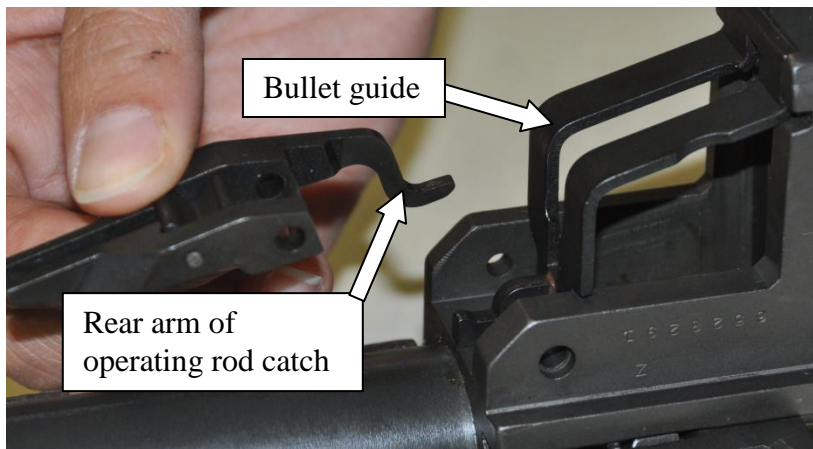
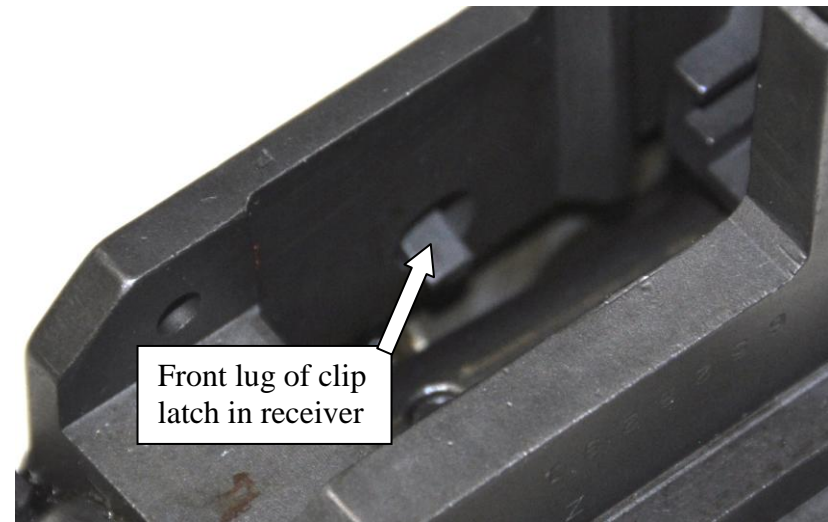
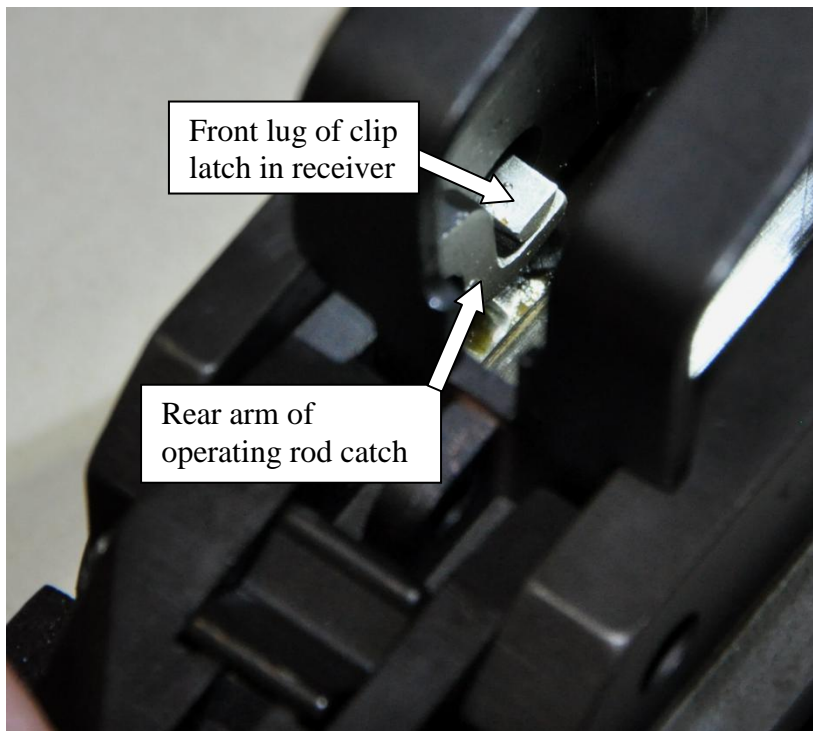
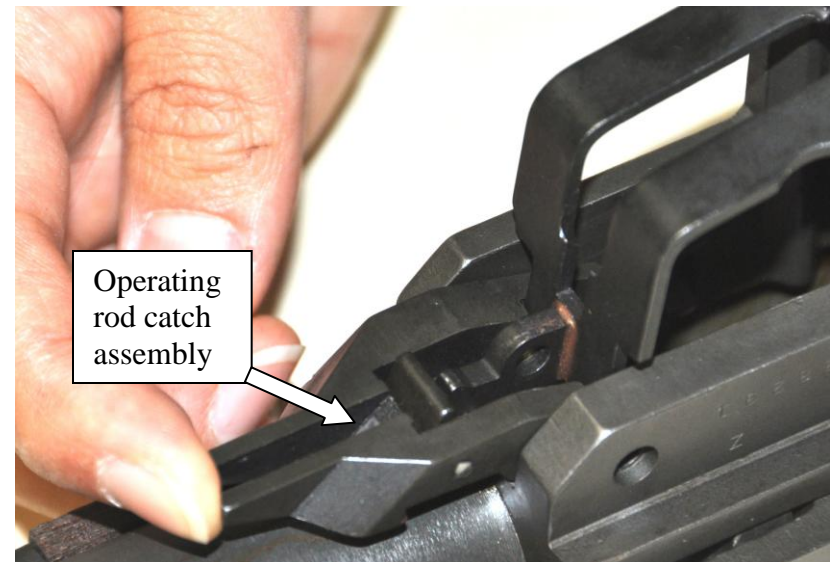

Figure 42. Rear arm of operating rod catch
Figure 43. Lug in receiver
Figure 44. Rear arm of operating rod catch underneath stud of clip latch
Figure 45. Testing of operating rod catch assembly
- 7) Lift up the lower part of the bullet guide slightly. Insert the rear arm of the operating rod catch (fig 42) through the clearance cut in the side of the bullet guide. Make sure that the rear arm is placed underneath the front lug (fig 43) of the clip latch which projects into the receiver (fig 44). Lower the bullet guide into place. Test for correct assembly by pressing down on the front arms of the operating rod catch assembly (fig 45). It should move and you should be able to feel the tension of the clip latch spring.